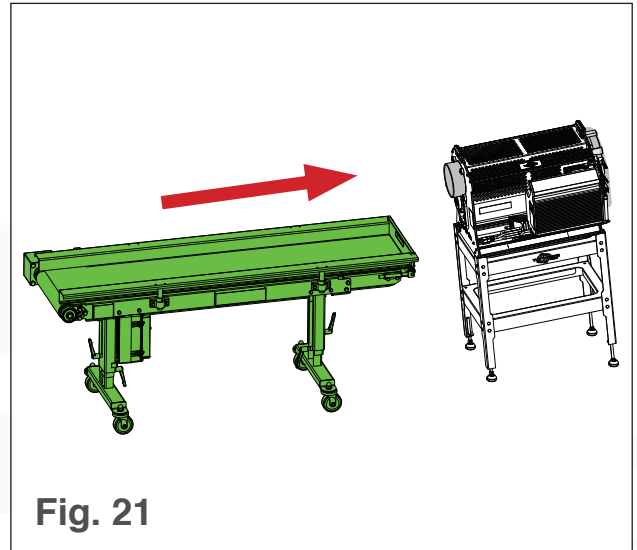

Fig. 21
3. Place the closed end of the QC Conveyor under the T4 outlet* (see Fig. 21).